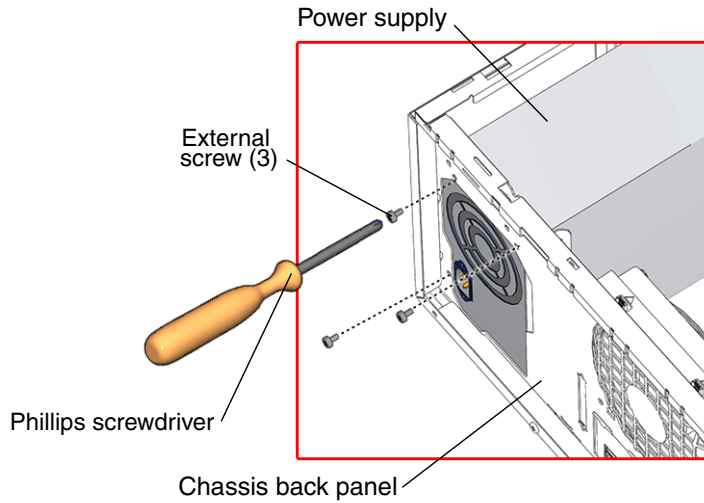

FIGURE 13-8 External Screws for the Power Supply
6. Fasten the power supply to the chassis back panel (FIGURE 13-8).